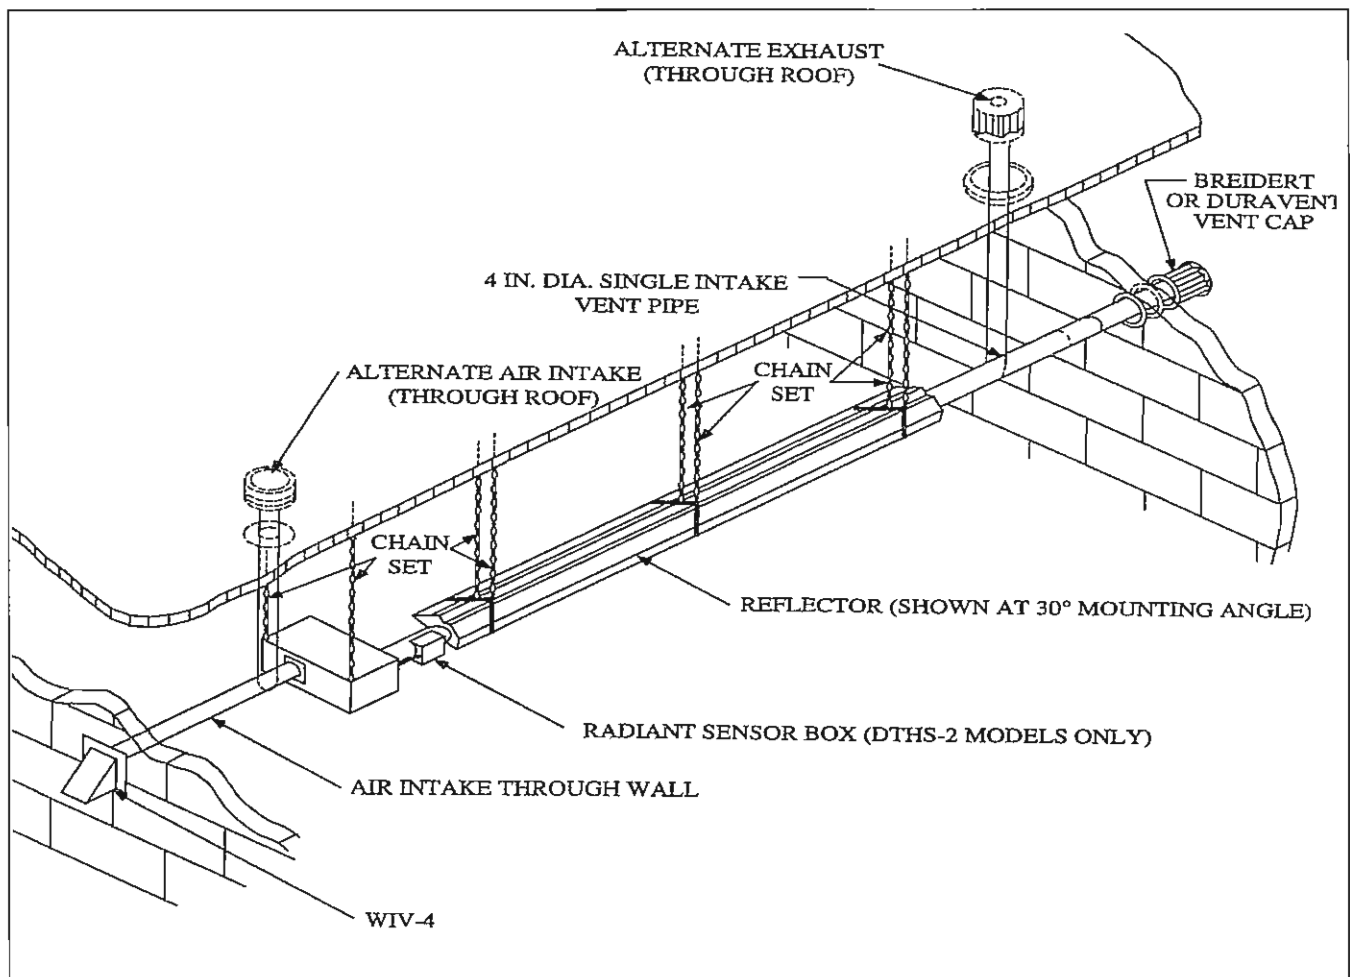

Figure 1-2
3. Make sure the finished installation will conform to the design requirements listed in the Clearance To Combustibles Chart (1) and the figure shown on page 3, and Figures 1-2 and 1-3.